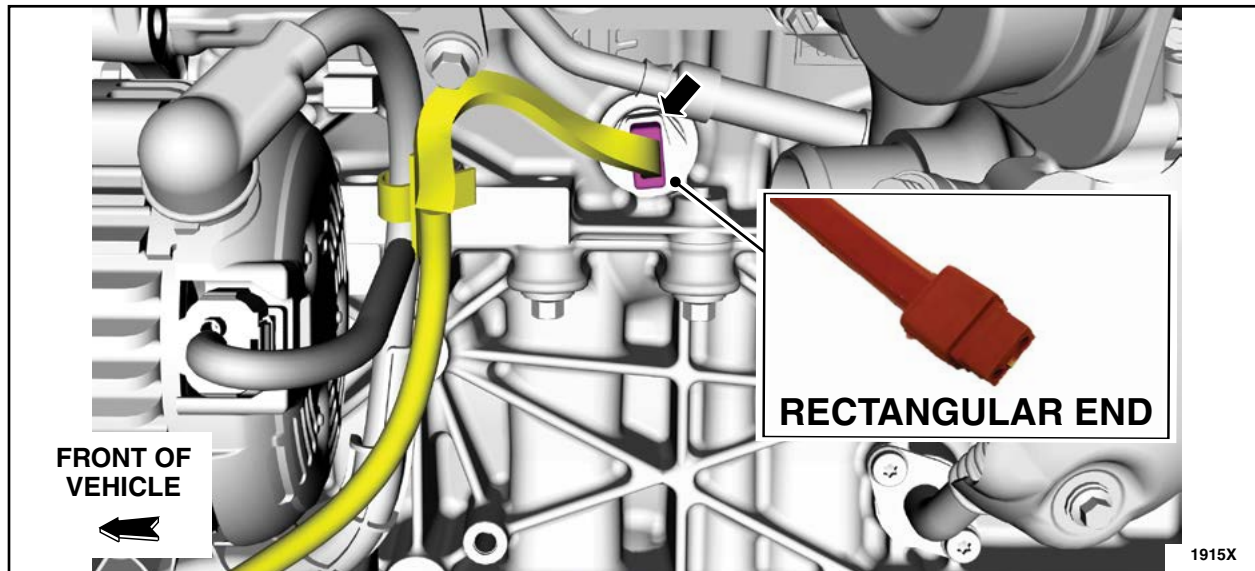

FIGURE 2
3. Does the immersion block heater cable have a rectangular or a round immersion element connector end? See Figures 2 and 3. Follow the repair procedure for the vehicles cable end shape.